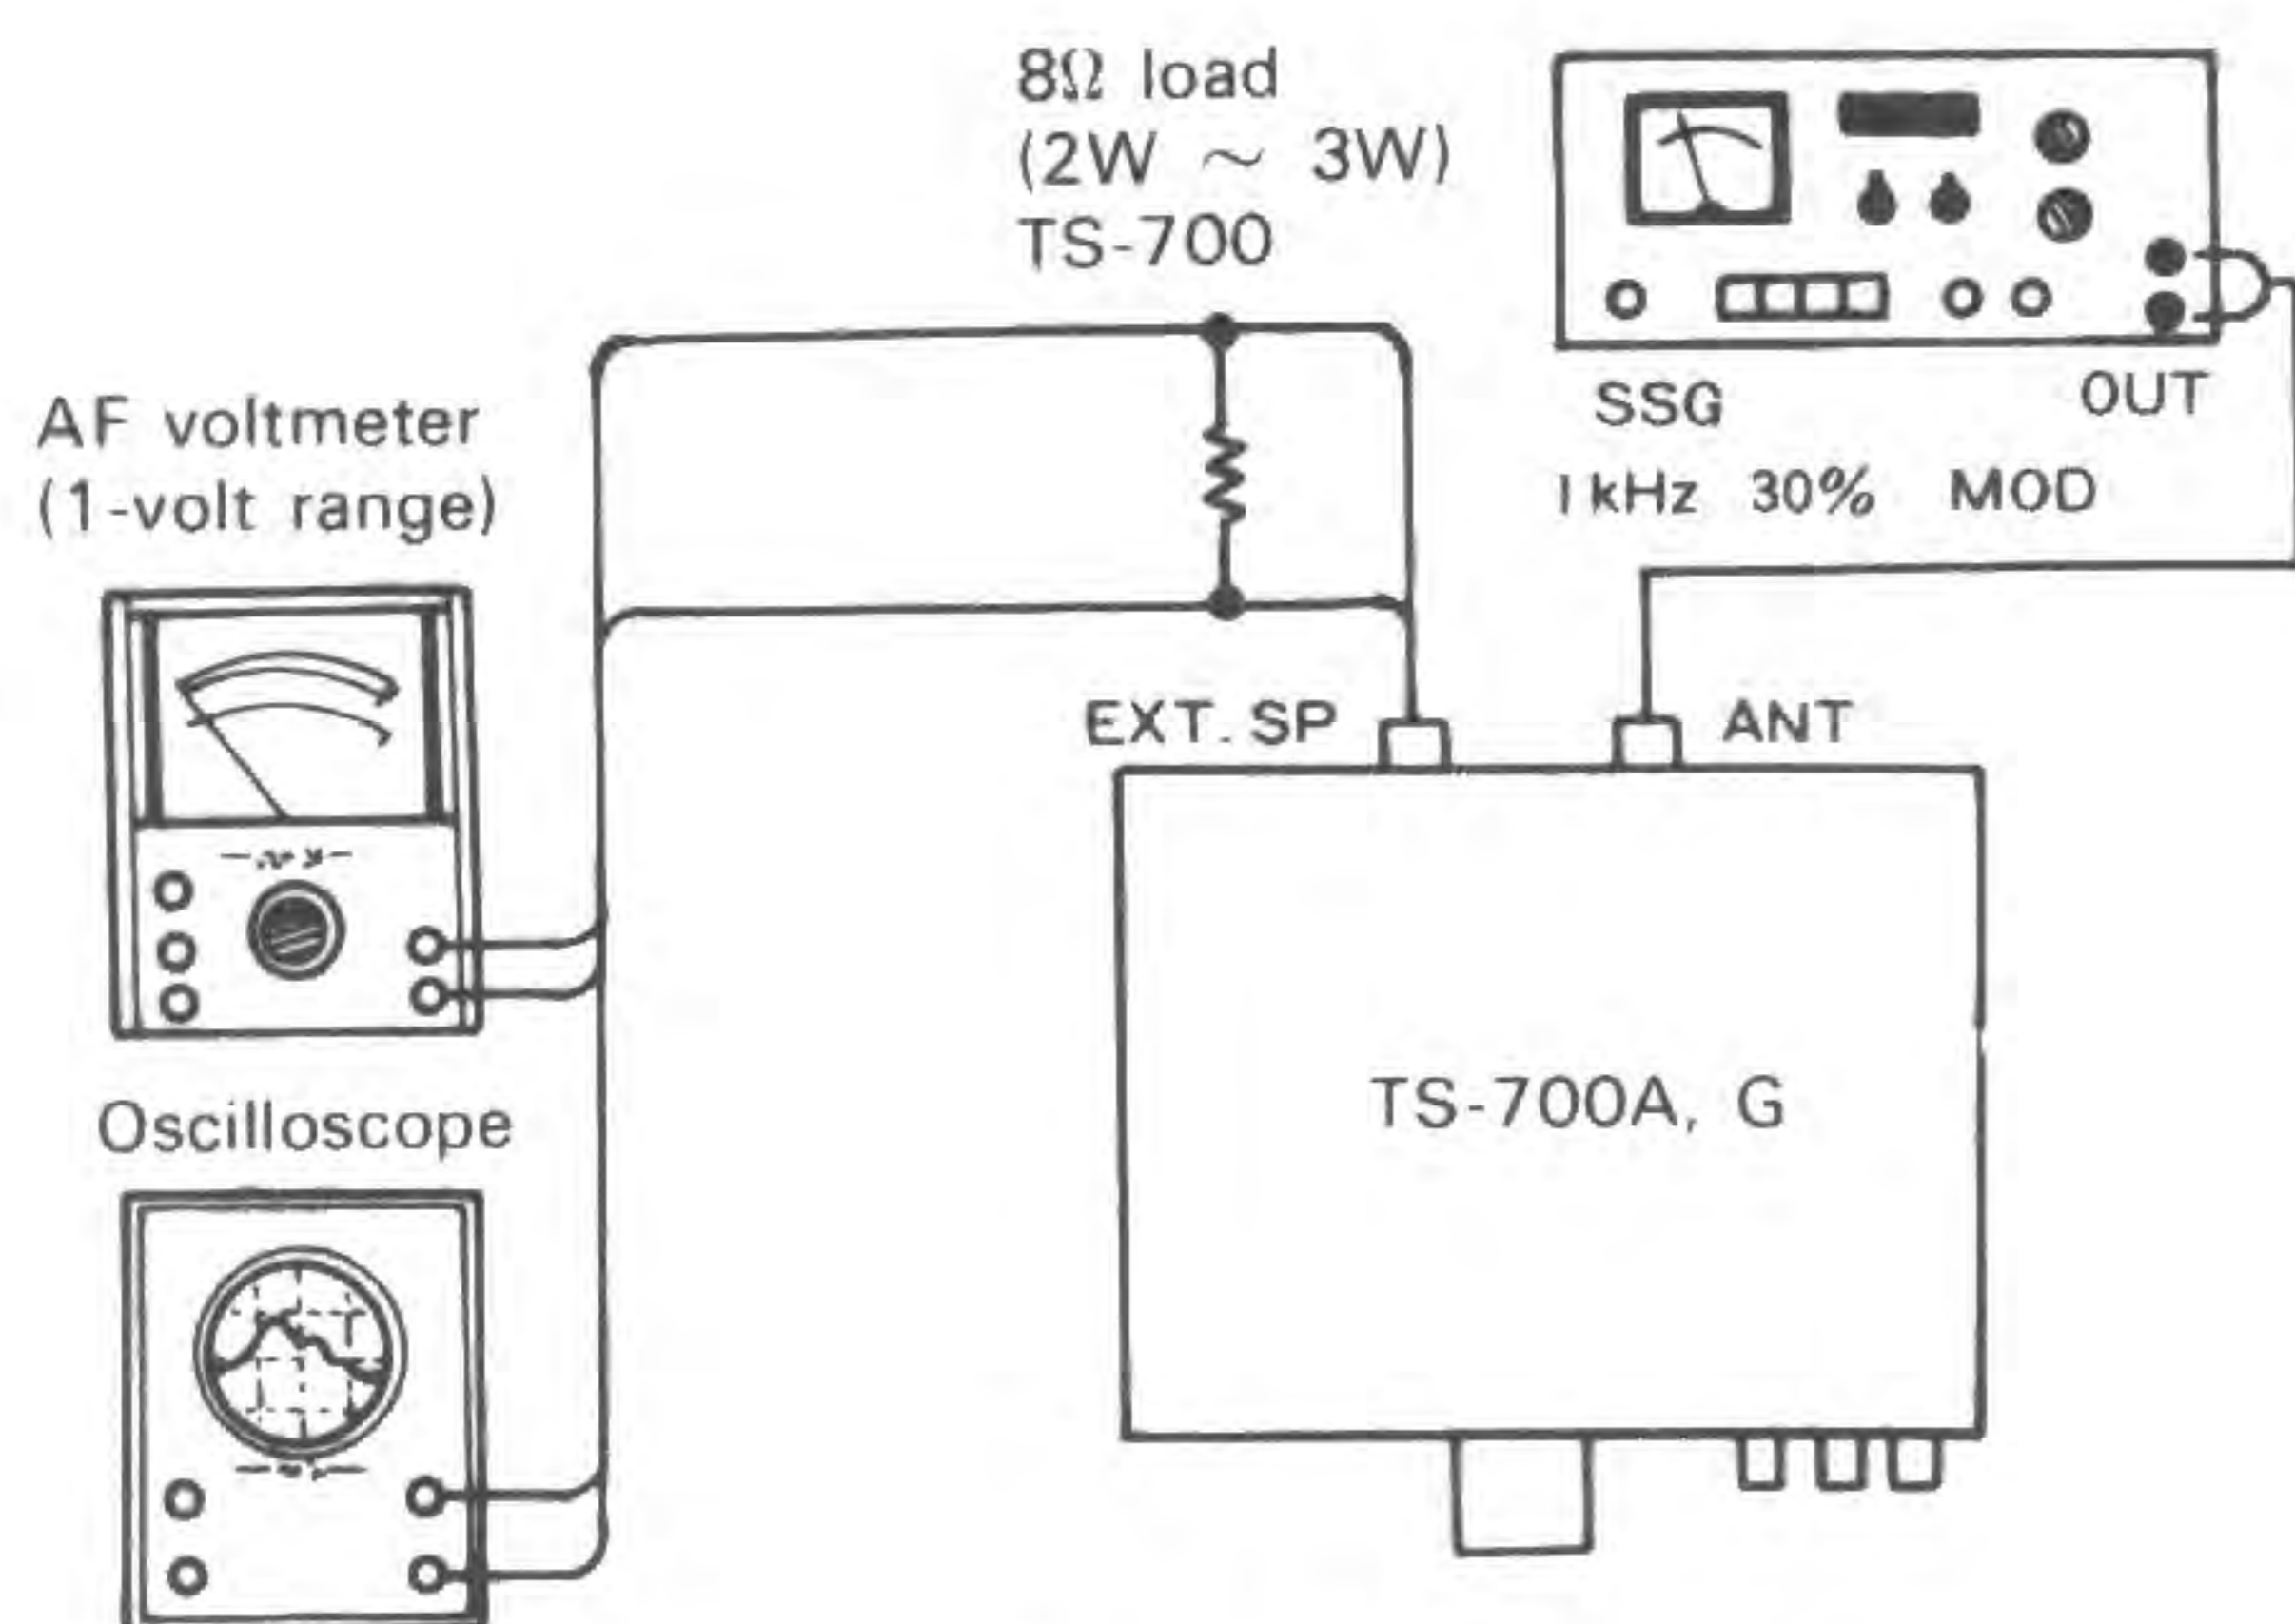

Fig. 17
Cable the equipments as shown in Fig. 17.
- 2) Referring to Fig. 17, feed the SSG output of 146 MHz (700A), 145 MHz (700G), not modulated, at 30 dB into the transceiver set for FM mode reception. The input level should be such that the pointer of "S" meter will swing to and stay at the middle position on the scale.